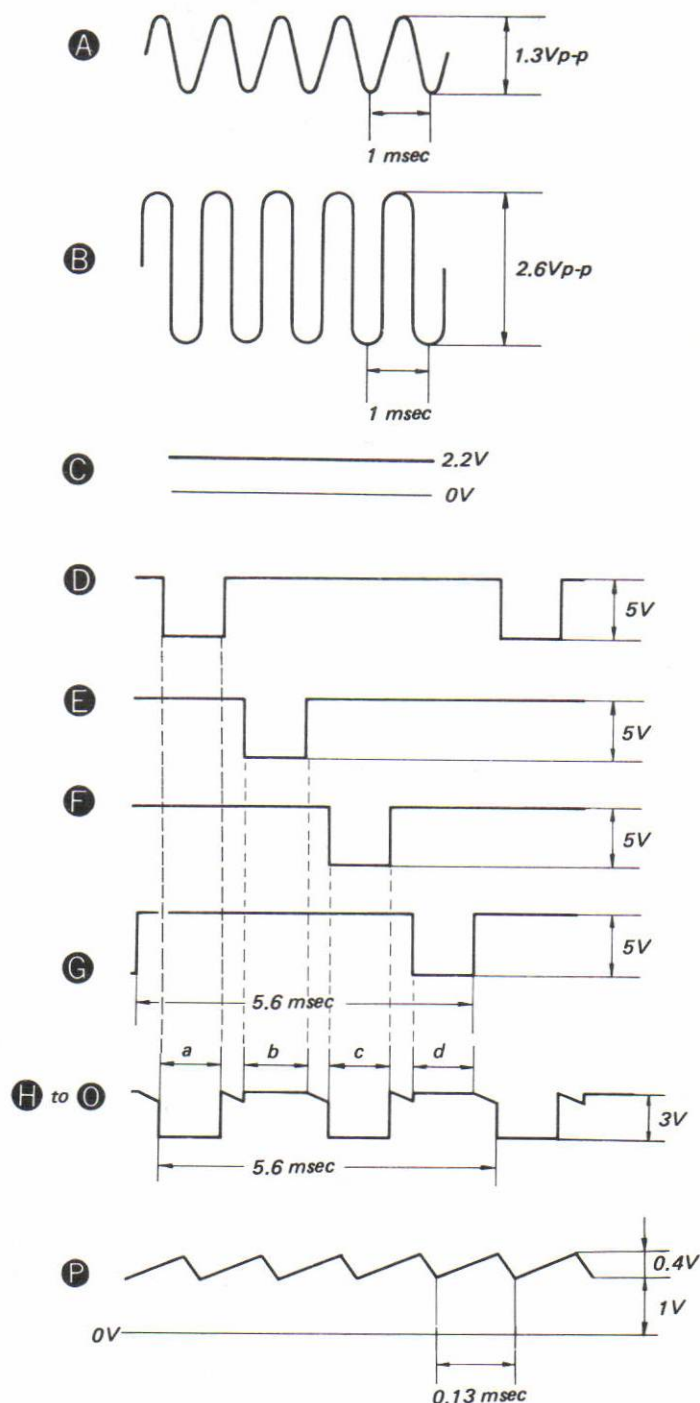

Fig. 13
6. LED Peak Program Meter (See Fig. 13, 14)